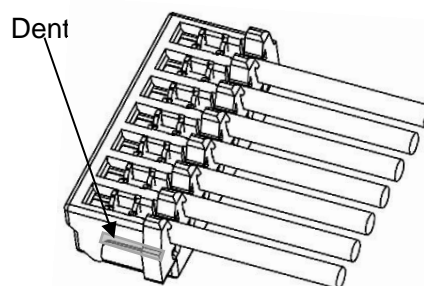

Fig.15
- ② Dents caused by the termination punch appear on the flange of the housing as shown in Fig.15.